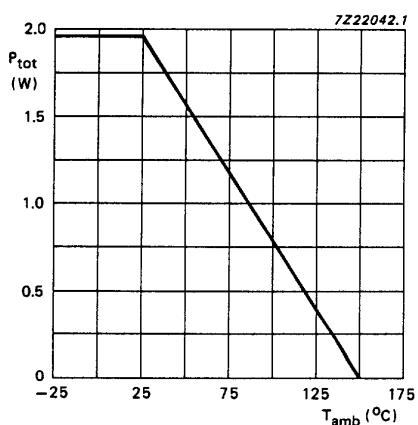

Fig.4 Power derating curve.
1. All parameters are measured in the application circuit (see Fig.4) at nominal supply voltage V_P = 3 V; T_{amb} = 25 °C; unless otherwise specified. RF conditions: Input frequency 1 MHz; 30% modulated with f_{mod} = 1 kHz; unless otherwise specified.
2. All parameters are measured in the application circuit (see Fig.4) at nominal supply voltage V_P = 3 V; T_{amb} = 25 °C; unless otherwise specified. RF conditions: Input frequency 100 MHz; frequency deviation Δf = 22.5 kHz and f_{mod} = 1 kHz; unless otherwise specified.